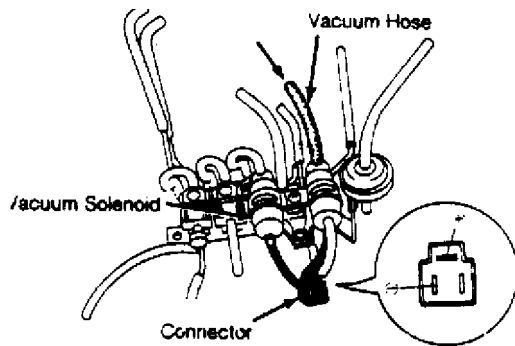

Fig. 7: Air Supply Valve
1) Disconnect vacuum hose from solenoid valve. Remove vacuum solenoid valve connector. Blow through vacuum solenoid valve from connecting tube side and make sure that air passes through solenoid valve. See Fig. 7.